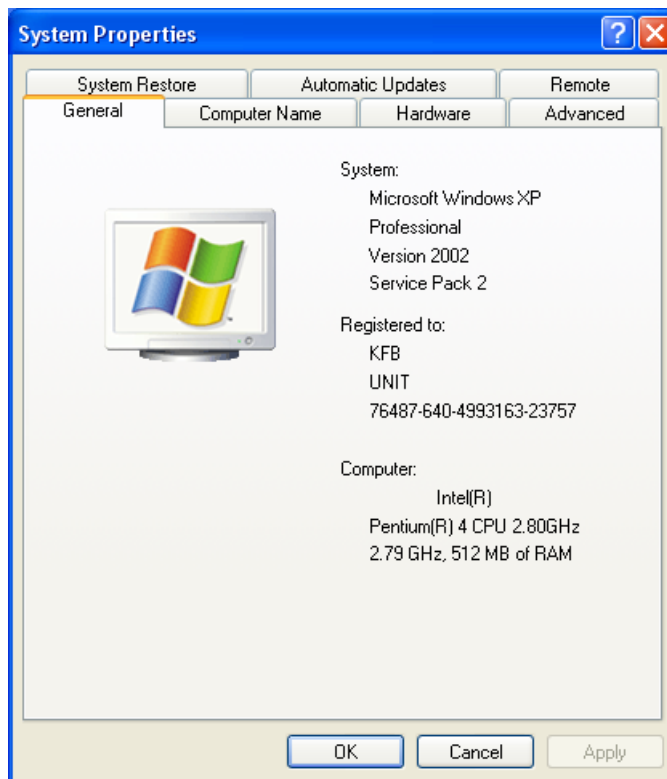
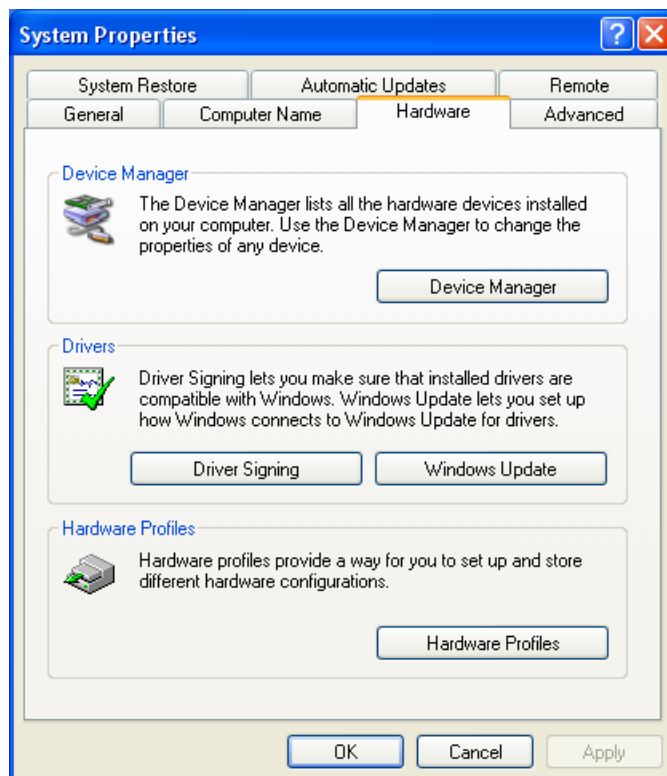
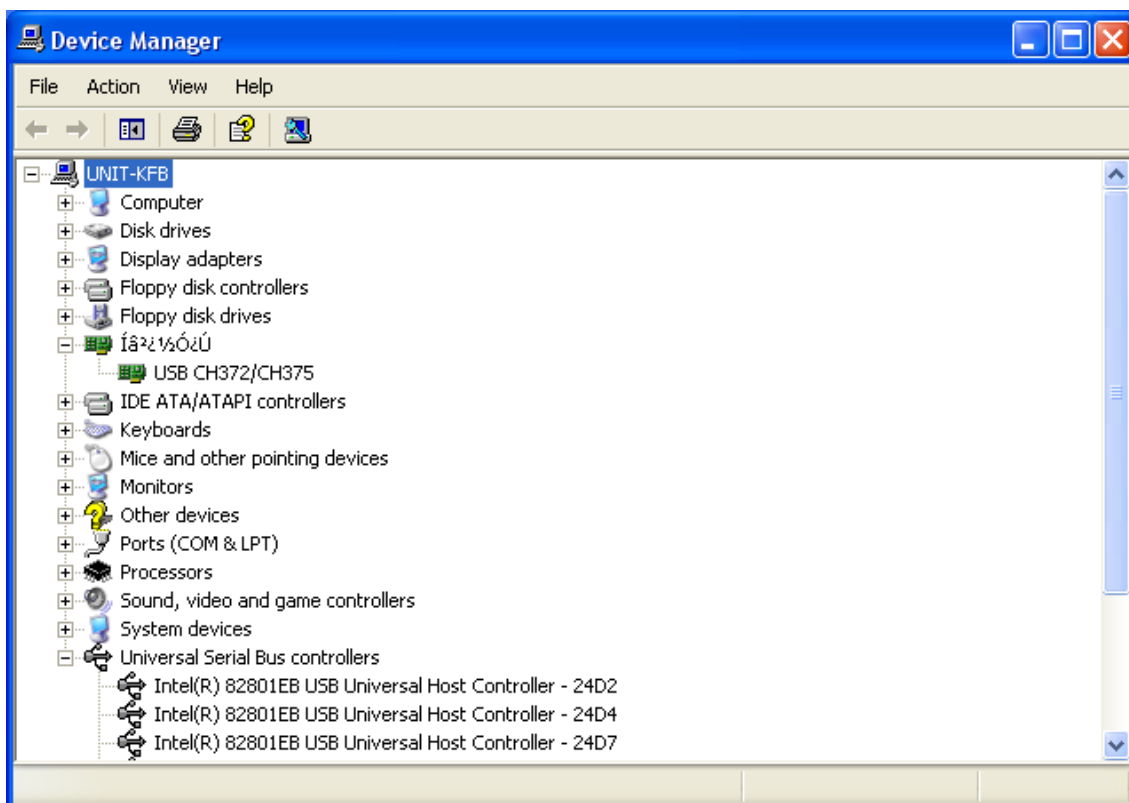

Figure 4-3
Figure 4-4
Figure 4-5
- ② In Figure 4-2, select ATTRIBUTE and right click to pop up Figure 4-3.
- ③ Select HARDWARE in Figure 4-3. Figure 4-4 is displayed.
- ④ Select EQUIPMENT MANAGER (D) in Figure 4-4. Figure 4-5 pops up.
- ⑤ In EXTERIOR INTERFACE in Figure 4-5, delete OSCILLOSCOPE to restart the oscilloscope. Select automatic driver update to upgrade the software.